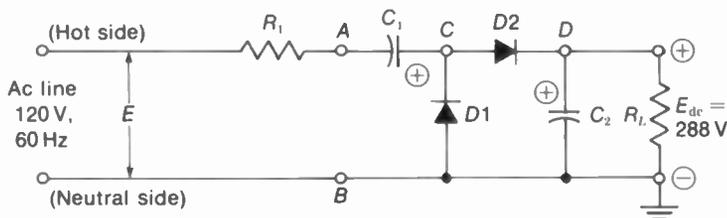

FIGURE 12-17 TYPICAL VOLTAGE DOUBLER. THIS TYPE IS A HALF-WAVE OR CASCADE DOUBLER CIRCUIT.
By series combinations of half-wave diodes and their filter capacitors, the amount of dc output voltage can be doubled, tripled, or quadrupled. Typical circuits are shown in Figs. 12-17 to 12-21. Even higher multiplication is possible, but the voltage regulation becomes worse and very large filter capacitors are necessary. In practical applications, the voltage doubler is often used for the B+ supply, especially the half-wave line-connected supply shown in Fig. 12-17. Voltage triplers and quadruplers can be used in the high-voltage supply for anode voltage on color picture tubes.
**Half-wave voltage doubler.** See Fig. 12-17. This circuit is also called a *cascade doubler* because the rectified output of  $D1$  is used for input to  $D2$ . The two diodes conduct on opposite half-cycles. We can start with the negative half-cycle of the ac input that drives the cathode of  $D1$  negative. Then this diode conducts to charge  $C_1$ . Note the polarity of the dc voltage across  $C_1$ . On the next half-cycle, when point A is positive, the  $C_1$  voltage is connected series-aiding with the ac input voltage. Then the input for  $D2$  is doubled, with the anode positive for conduction. As  $D2$  charges  $C_2$ , the dc output voltage across  $C_2$  is doubled.  $R_1$  is the surge-limiting resistor for both diodes.
An important feature of this doubler is that one side of the ac input and dc output are common. For this reason, the half-wave doubler is generally used as a line-connected supply, without a power transformer. As shown in Fig. 12-17, the grounded side of the dc output is common to the neutral or grounded side of the ac input. The common connection reduces the problem of stray pickup of 60-Hz hum in the receiver.